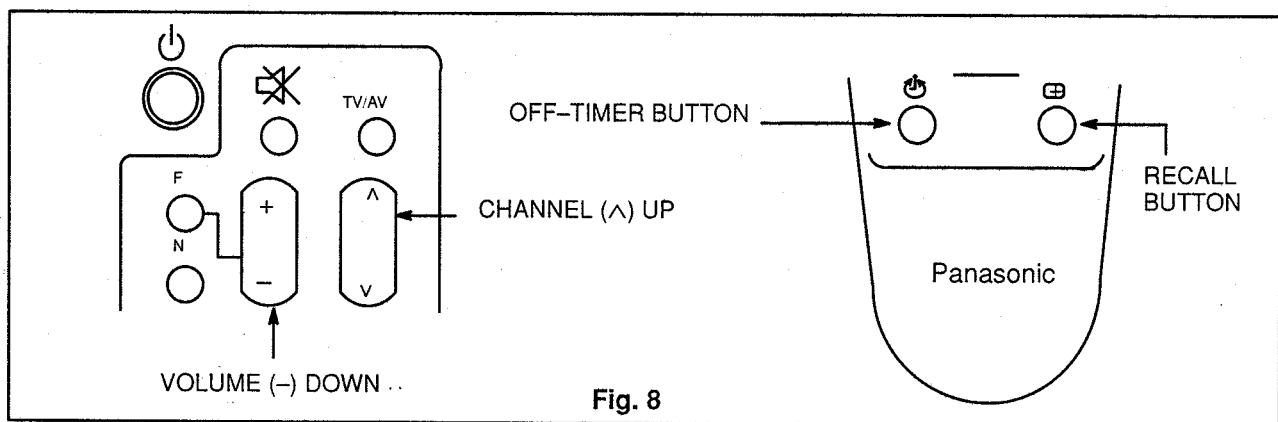

Fig. 8
**How To Set :** To set the hotel mode, press CHANNEL ( $\wedge$ ) UP on the TV and OFF-TIMER on the remote control simultaneously as shown in figure. 8.
**How To Cancel :** To cancel the hotel mode, press VOLUME (-) DOWN on the TV and OFF-TIMER on the remote control simultaneously as shown in figure. 8.